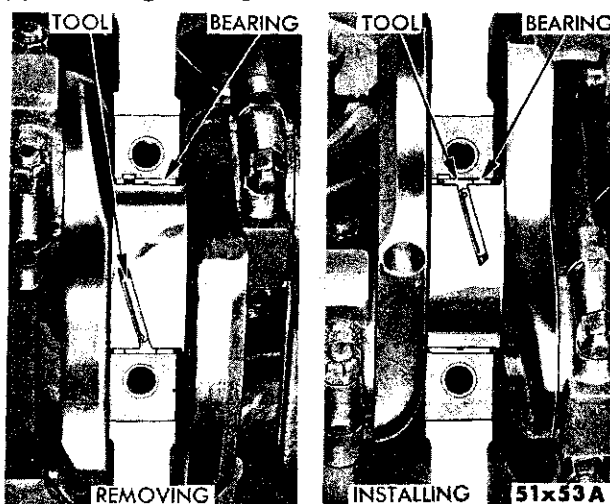

Fig. 47—Removing or Installing Main Bearing Upper Shell
(1) Remove the oil pan and mark bearing caps before removal.
(2) Remove the bearing caps one at a time. Remove the upper half of bearing by inserting Tool C-3059 (Fig. 47) into the oil hole of crankshaft.
(3) Slowly rotate crankshaft clockwise, forcing out upper half of bearing.
(1) Start bearing in place, and insert Tool C-3059 into the oil hole of the crankshaft (Fig. 47).
(2) Slowly rotate the crankshaft counter-clockwise sliding the bearing into position. Remove Tool C-3059.
(3) Smooth the edges of a  $\frac{1}{2}$  x  $\frac{3}{4}$  inch piece of soft copper or brass shim stock, .001 inch thickness.
(4) Install bearing in center main bearing cap, bearing tank in groove in cap, lubricate bearing and position the shim stock across the bearing, install cap, tighten bolts to 85 foot-pounds torque.
(5) If a slight drag is felt as the crankshaft is